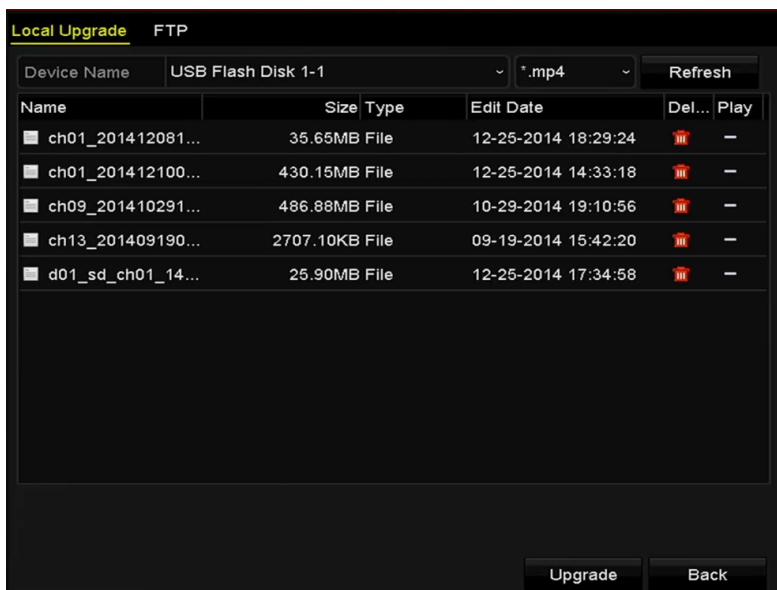

Figure 17-7 Local Upgrade Interface
Step 3 Click the **Local Upgrade** tab to enter the local upgrade menu, as shown in Figure 17-7.